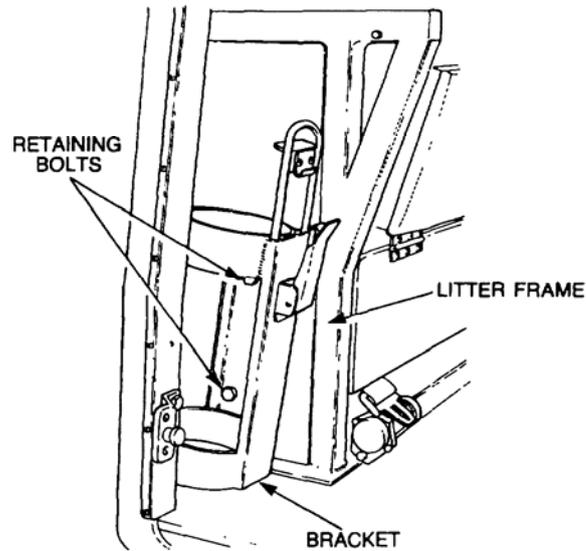

Figure 43 Oxygen Cylinder Bracket Removal
- g. Remove the two bolts, nuts and washers securing the mounting bracket to the litter frame (refer Figure 43).